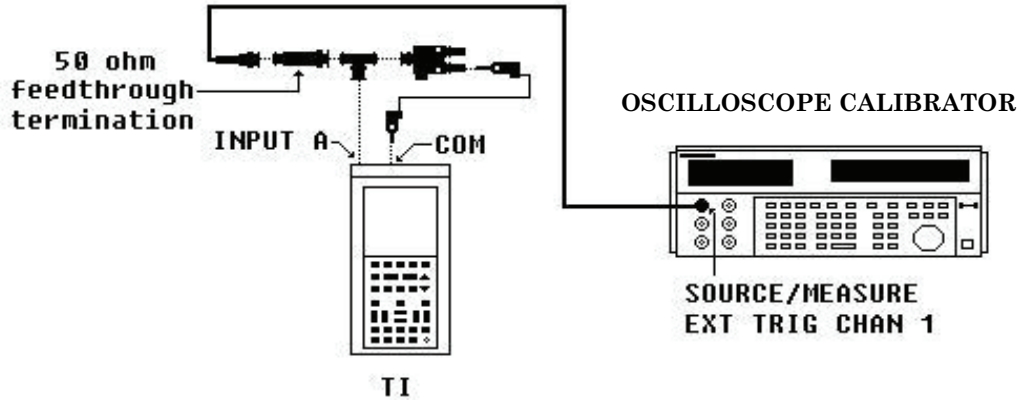

Figure 3. Scope bandwidth input A.
- (2) Connect equipment as shown in figure 3 below: